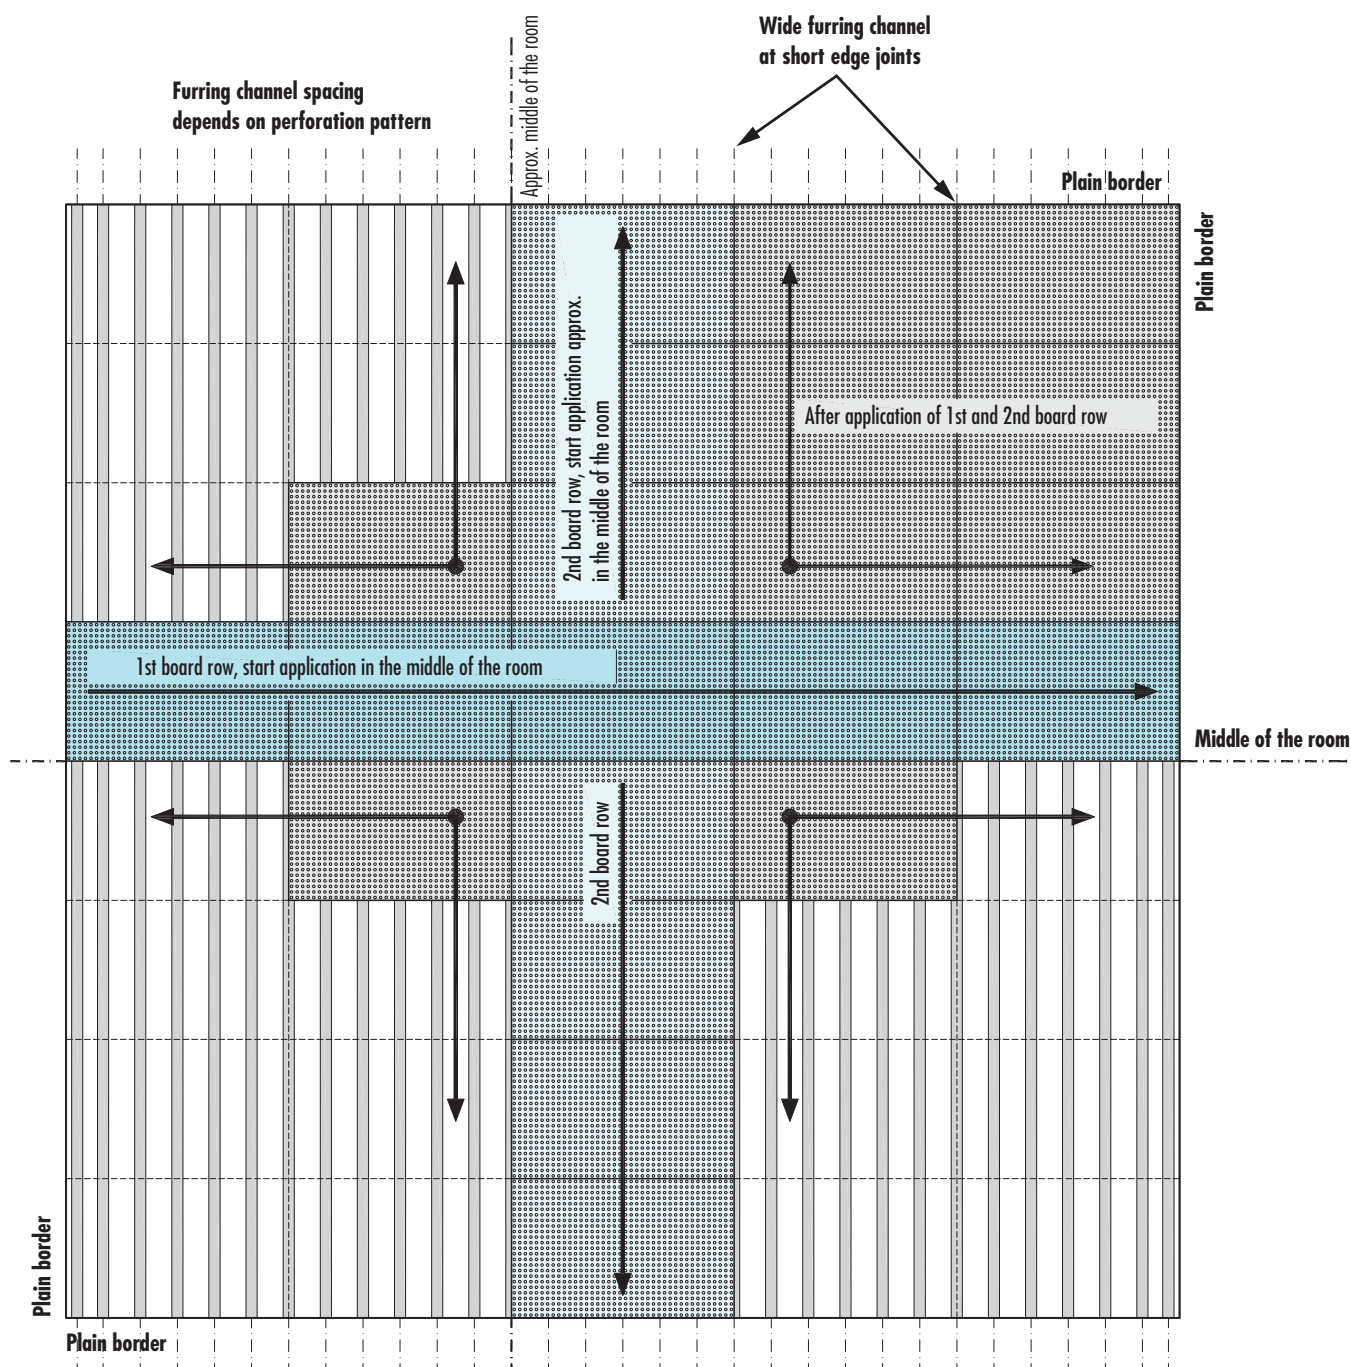

FIGURE 3 Installation Scheme
- Start sheeting from the centre of the room. [Figure 3]